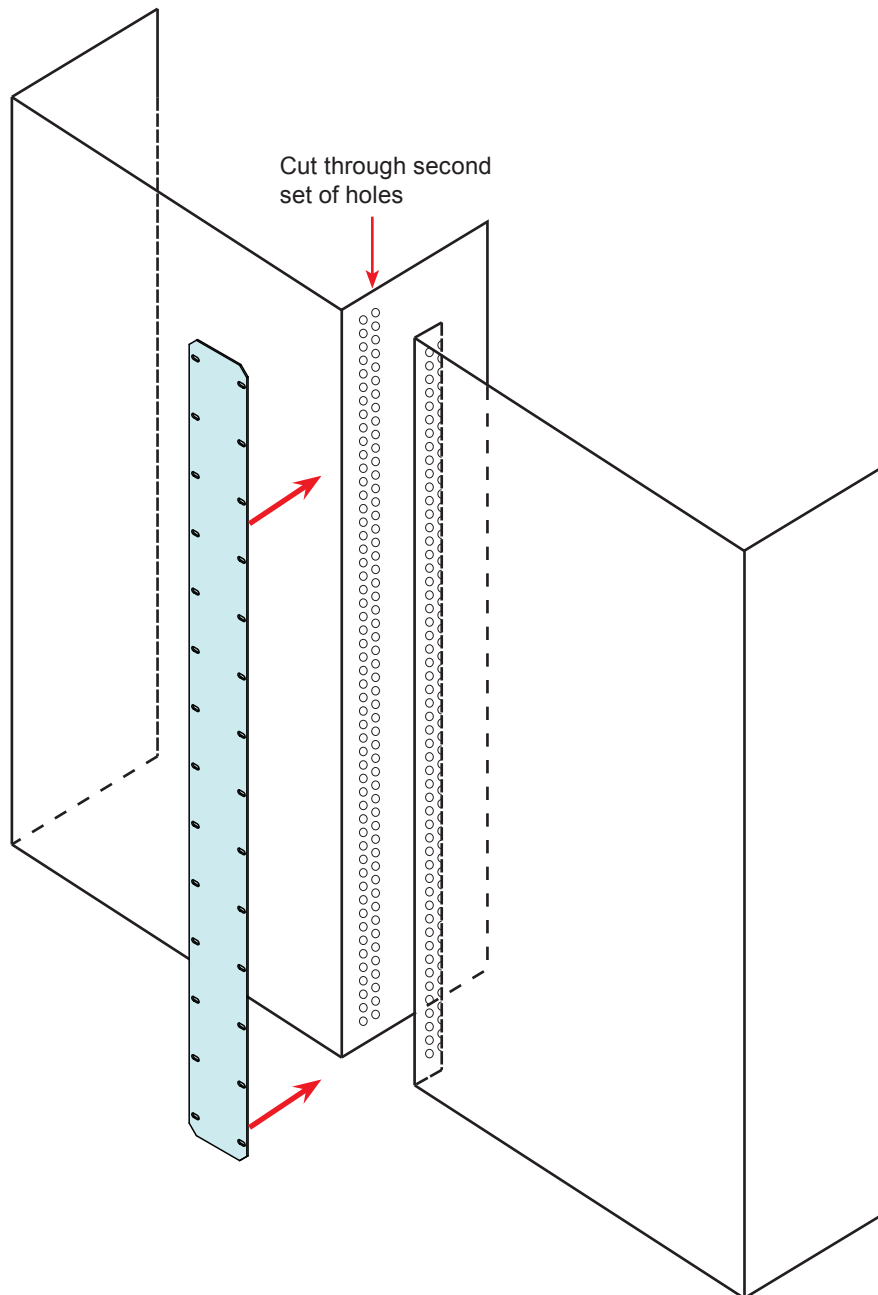

Figure 25 — Re-installation of rear Kydex covers
3. Join the covers together with the plastic pins and the Kydex strip shown in Figure 25.